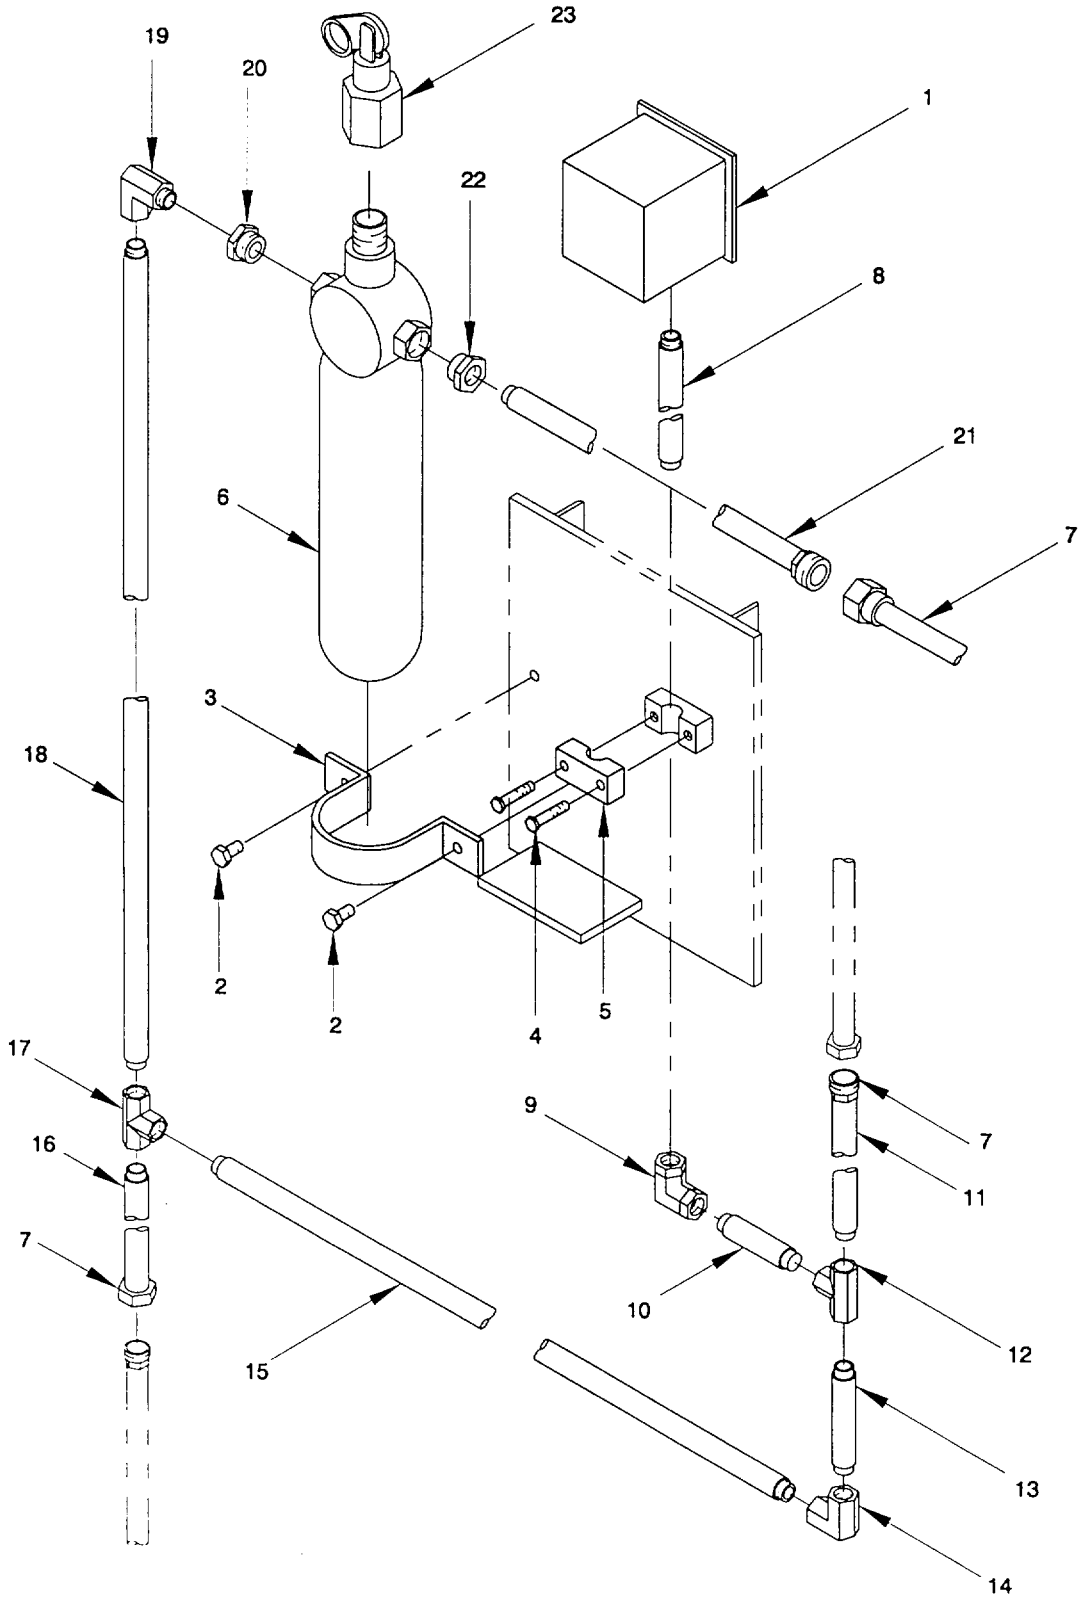

Figure 2-36. Time Delay Cylinder, Control Head & Pressure Switch, Fire Supp. System, Remove/Install
a. Remove. (figure 2-36)
- (1) Disconnect all electrical connections at pressure switch (1). Refer to Appendix G.
- (2) Remove capscrews (2) from strap (3).
- (3) Remove capscrews (4) from pipe support (5).
- (4) Free 30 second time delay cylinder (6), pressure switch (1) with all associated piping by separating unions (7).
- (5) To disassemble the plumbing associated with the time delay cylinder in the correct sequence, remove pipe (8), elbow (9), pipe (10), pipe (11), tee (12), pipe (13), elbow (14), pipe (15), pipe (16), tee (17), pipe (18), elbow (19), reducer (20), pipe (21), and reducer (22).
- (6) Remove control head (23) from top of time delay cylinder by loosening swivel nut.
- (7) Remove pipe (8) from pressure switch (1).
b. Install. (figure 2-36)
- (1) Apply Teflon tape to all male fitting and piping ends.
- (2) Install pipe (8) in pressure switch (1).
- (3) Install control head (23) in top of time delay cylinder (6) by tightening swivel nut.
- (4) Assemble reducer (22), pipe (21), reducer (20), elbow (19), pipe (18), tee (17), pipe (16), pipe (15), elbow (14), pipe (13), tee (12), pipe (11), pipe (10), elbow (9), and pipe (8) to reassemble the plumbing associated with the time delay cylinder (6).
- (5) Position time delay cylinder (6) and pressure switch with all associated piping and secure with unions (7).
- (6) Install capscrews (4) in pipe support (5) and capscrews (2) in strap (3).
- (7) Reconnect all electrical connections to pressure switch (1). Refer to Appendix G.